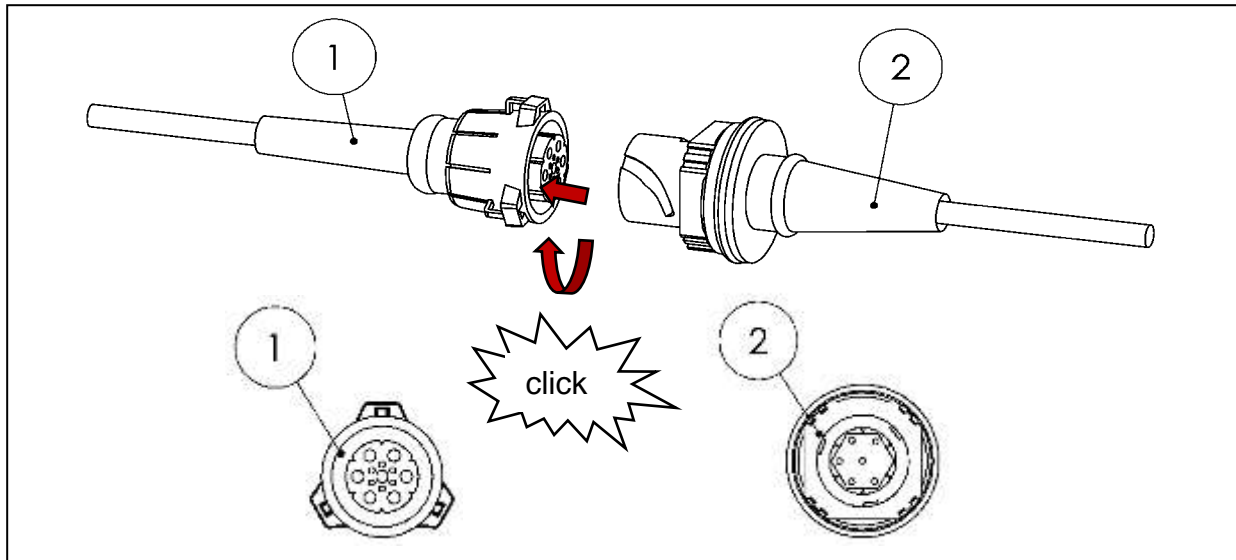

Fig. 19
- Route the cabin switch cable from the **accessories kit (Item No. 11)** to the driver's cabin (see Fig. 19).